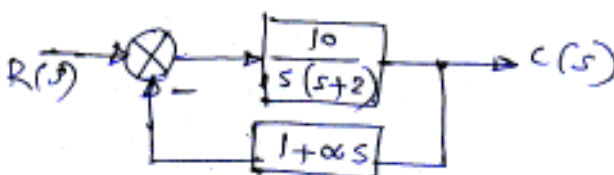

Fig. 4(b)
- b) The block diagram of a position control system with velocity feedback is shown in fig 4(b). Determine the value of  $\alpha$  so that the step response has maximum overshoot of 10 percent. What is the steady state error ?